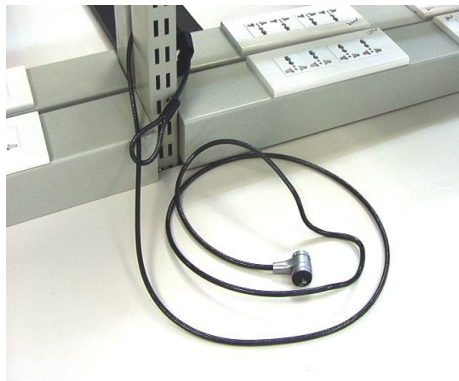

Figure 5-7
- 1.) Wrap the cable around the immovable object, refer to Figure 5-7 on page 8 ;
- 3.) Insert the lock into the Kensington security slot in the system side cover, refer to Figure 5-7;